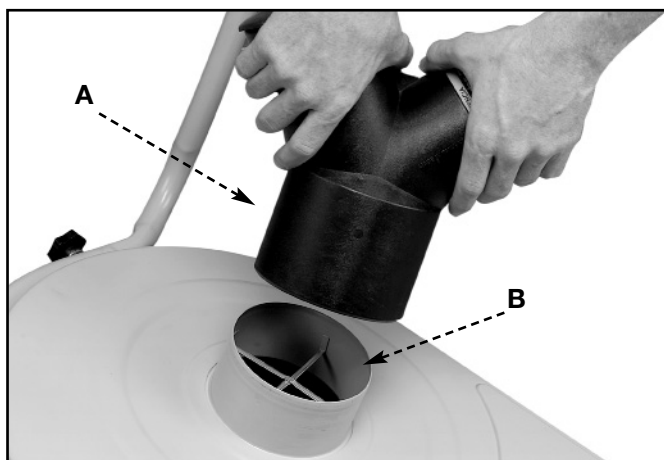

Fig. 7
Place dust intake port (A) Fig. 7 onto and around intake flange (B) opposite the motor. Dust intake port should be snug on the intake flange.